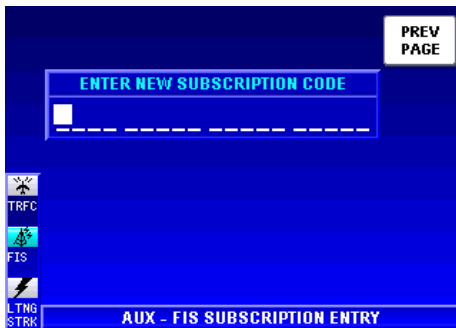

Figure 2-14
5. After obtaining the Subscription Code, press the **ADD SUBSCR** softkey to display Figure 2-14